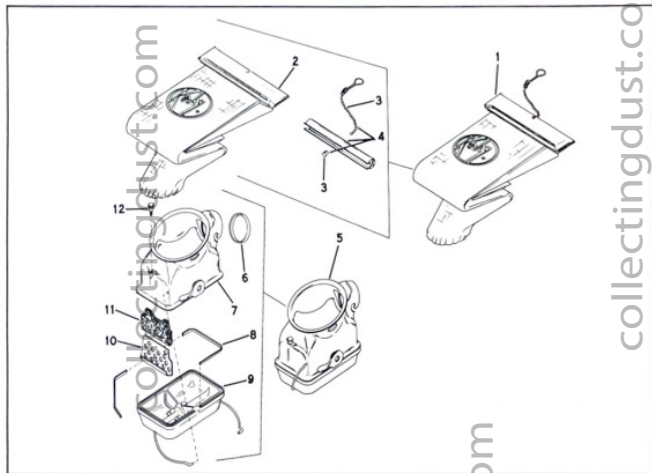

Figure 4-1. Emtor Group, exploded view (Models 505/515)
The remaining emtor group parts for Model 516 through ( ) \* are the same as those shown in figure 4-1 for models 505 through 515.
- b. Hold the emtor securely and start one edge of the bag elastic over the emtor flange and remove the bag from the emtor upper casting (7, fig. 4-1).
- c. Roll the top edge of the bag flap over the bag clamp (4).
- e. To replace the chain and loop (3), press the chain end through the clamp and disengage the chain from the chain end. To install the chain and loop, put the chain through the top of the clamp (4); engage the chain with the chain end and pull the chain end securely into the hole of the clamp.
- f. Make sure that the bag is folded so center folds meet; slide the assembled bag clamp and chain on the bag (2).
- (1) Release the tray clamp; disengage the ends of the tray support from the emtor upper casting and remove the bottom plastic tray (7, fig. 4-1).
- (2) If only the felt gasket (8) is worn, pull it from the groove of the plastic tray (9).
- (1) Remove the emtor gasket (6, fig. 4-1) from the upper casting (7).